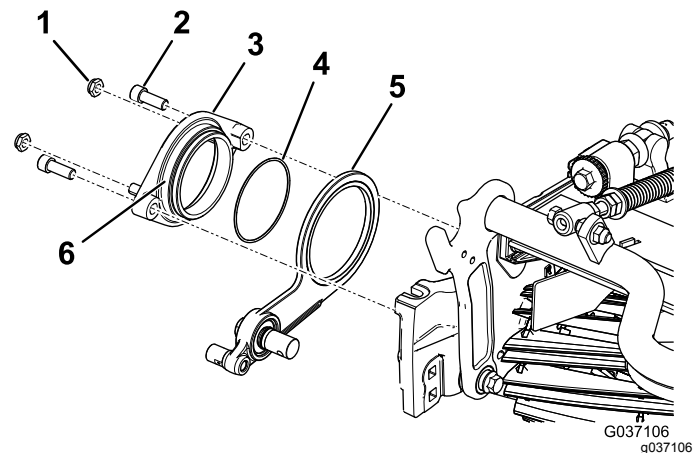

Figure 8
3. Apply anti-seize compound on the outside diameter of the pivot-hub assembly (Figure 8).
4. Secure the pivot hub over the idler assembly to the reel using 2 hex-socket bolts (Figure 8).
5. Loosely install the 2 locknuts on the pivot hub (Figure 8).